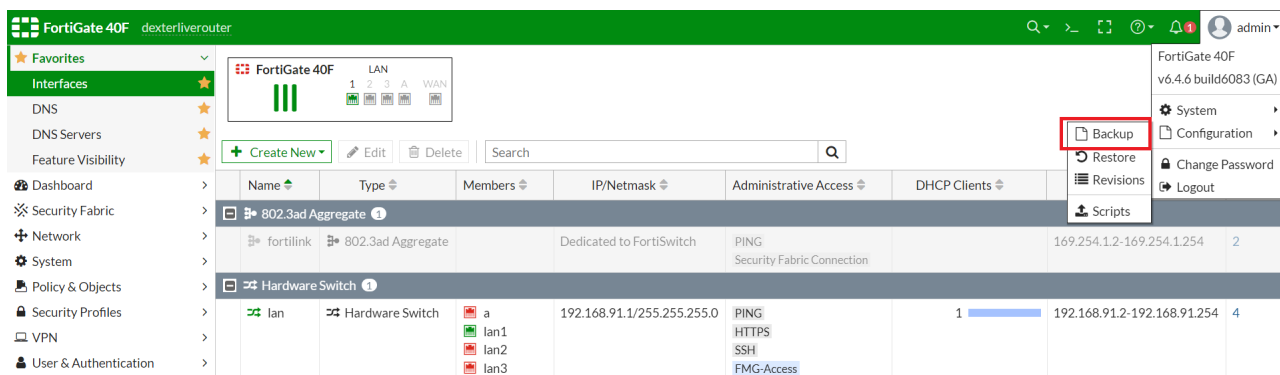

Figure 31
26. Log back into the router using **admin** as username and password. Bypass setup prompts (see Procedure 1, page 23). Navigate to the top-right of the screen and select "Admin". Hover over "Configuration", then select "Backup". (Figure 31)